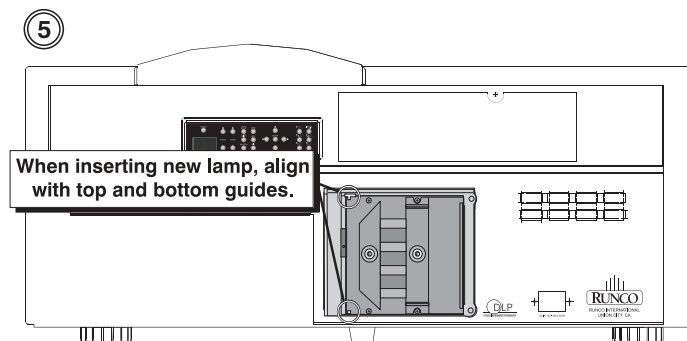

Figure 5-4. Installing A New Lamp
- Align the new lamp with the top and bottom guides on the left side of the lamp compartment; see Figure 5-4. Slide the lamp all the way in. A slightly harder push may be required right at the end to make sure it is fully seated into the terminal block. **NOTE:** The projector will not power up again if the lamp is not fully connected to the terminal block.